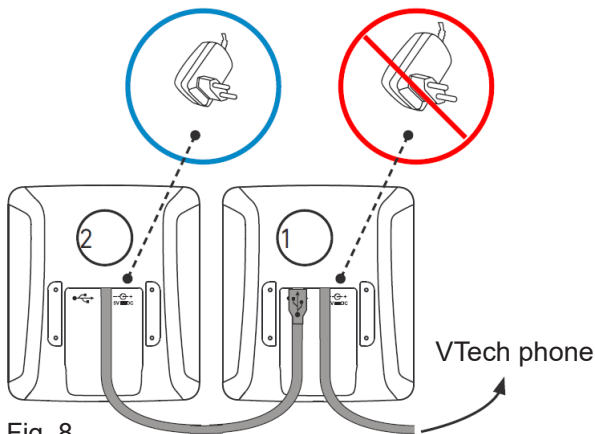

Fig. 8
- **The modules must be daisy-chained, as shown in Fig. 8.** If they are not, the phone will not be able to find and identify the function keys, and you will not be able to use them. **Do not use a USB hub** or, if the phone has more than one USB port, **do not** connect expansion modules to more than one port (Fig. 9).
- A separately available power adapter must be attached to the **second** module in the chain, as shown in Fig. 8.
1. Connect the expansion modules to each other, as shown in Fig. 8.
2. Attach the power supply to the second module, as shown in Fig. 8.